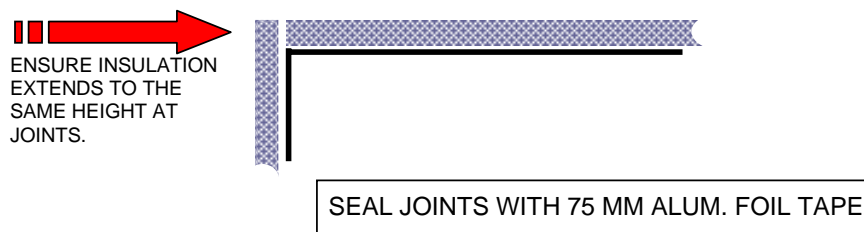

Fig 3
- ❑ Repeat until completely covered. On the final side, ensure the insulation length reaches the same level as the starting edge. Trim off excess length with sharp knife until it is level with adjacent side. (Fig 3).
- ❑ Ensure width of sheets is adequate to cover the duct and the extra width from the adjacent sheets of insulation. (See Fig 3).